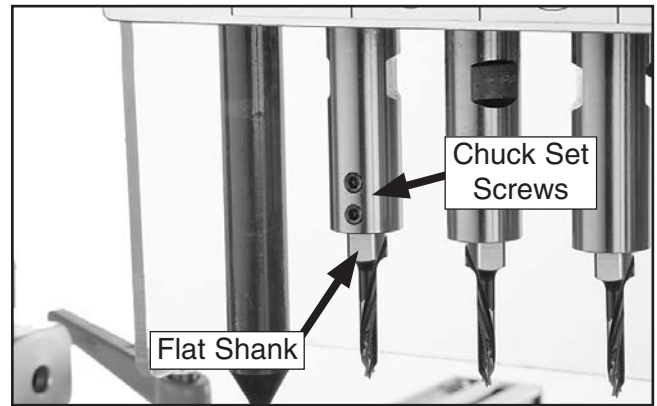

Figure 20. Boring bit installed.
4. Use a 2.5mm hex wrench to firmly tighten two M5-.8 x 5mm set screws (see **Figure 20**) against the flat shank of the boring bit.